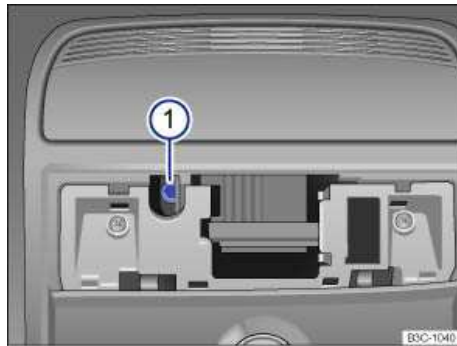

Fig. 159 Hexagonal head screw for closing the power sunroof.
2. Insert a commercially available 1/6 in. (4 mm) Allen wrench8 into the hexagonal head screw ⇒ fig. 159 \(1\).